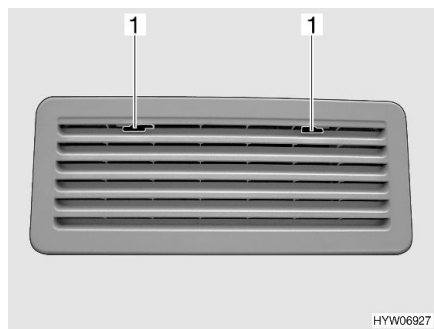
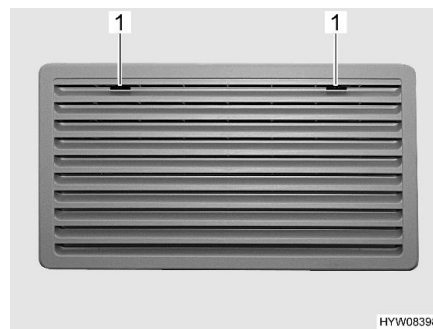

Fig. 91 Refrigerator ventilation grill (Thetford)
Fig. 92 Refrigerator ventilation grill, large (Thetford)
- Move the locking device (Fig. 91,1 or Fig. 92,1) to the middle.